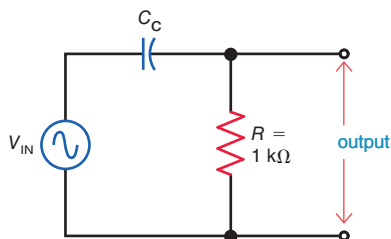

Figure 17-19
- 17.21** In Fig. 17-19, calculate the minimum coupling capacitance, C_C , in series with the 1-k Ω resistance, R , if the frequency of the applied voltage is
- 17.22** In Fig. 17-19, assume that $C_C = 0.047 \mu\text{F}$ and $R = 1 \text{ k}\Omega$, as shown. For these values, what is the lowest frequency of the applied voltage that will provide an X_C of 100 Ω ? At this frequency, what is the phase angle, θ_Z ?